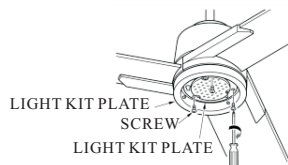

FIG.17
5. Tighten the light kit by using the 3 screws removed in step 3 (see Fig.17)